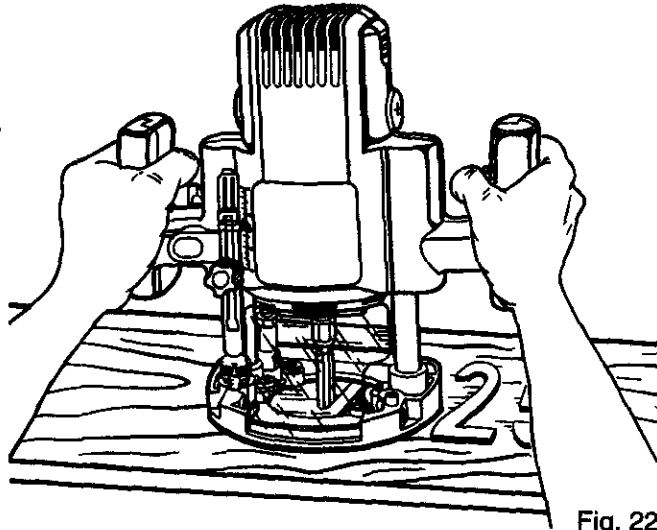

Fig. 22
See Figure 22.
- Routing out the background, leaving the letters or pattern raised above the surface as shown in figure 22.